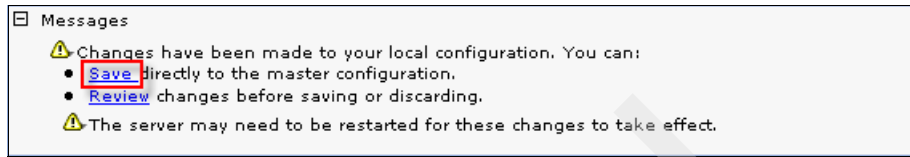

Figure 7-9 Saving directly to the master configuration
6. In the Messages box (Figure 7-9), click the **Save** directly to the master configuration link.